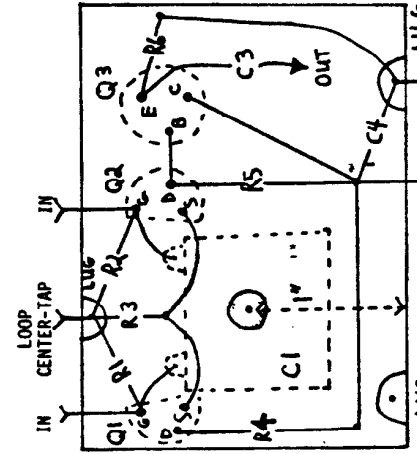

figure 1 CIRCUIT BOARD (hole for C1 is 1/4")
- A) Set up perboard according to figure 1. The solder lugs will support the perboard in the mini-box. The left hand edge of the board as shown should end up snug with the edge of the mini-box.